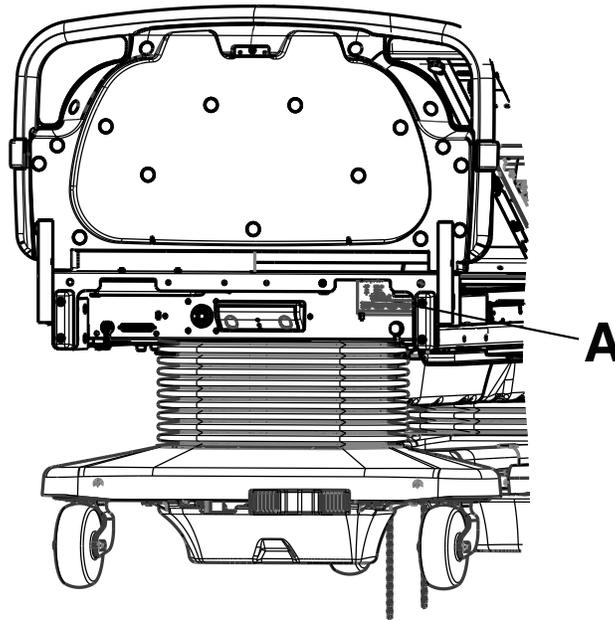

Figure 2 – Serial number location
You can find the serial number (A) above the power cord behind the headboard (Figure 2).